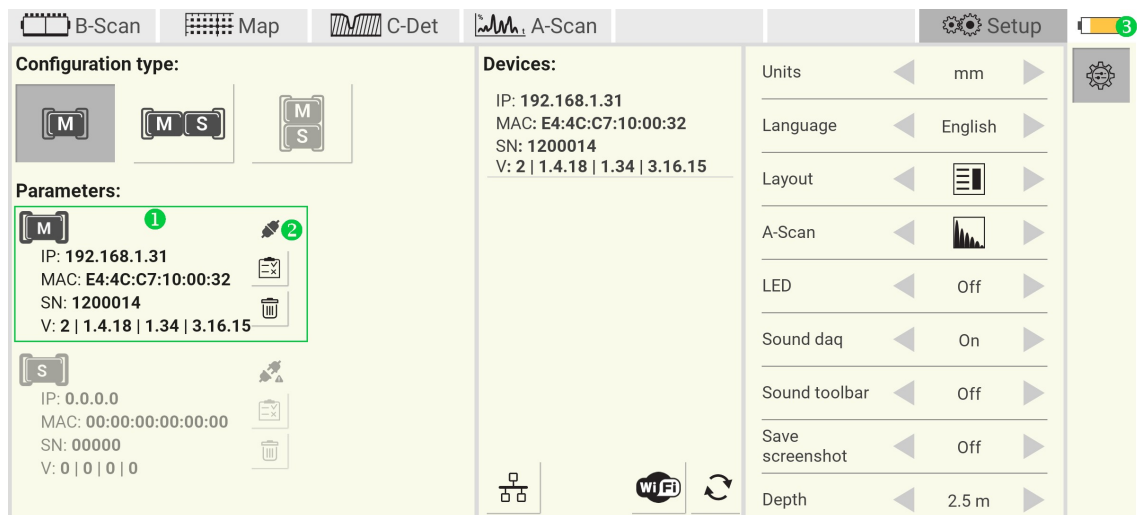

Figure 22: A1040 MIRA 3D connection
The indicator ② changes from  to . The battery indicator ③ changes its status from disconnected  to power, Figure 22.